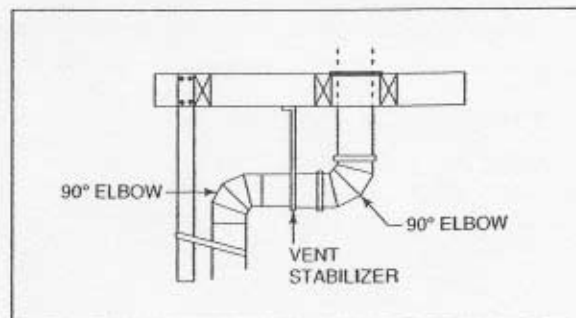

Figure 11
2. Preparing the ceiling. Drop a plumb bob down from the ceiling to the position of the appliance flue exit, and mark the location where the vent will penetrate the ceiling. Drill a small hole at this point. Next, drop a plumb bob from the roof to the hole previously drilled in the ceiling, and mark the spot where the vent will penetrate the roof. Determine if ceiling joists, roof rafters, or other framing will obstruct the venting system. You may wish to relocate the appliance, or to offset, as shown in Figure 11, to avoid cutting loadbearing members.
To bypass any overhead obstructions, the vent system may be offset using a 45 degree elbow or a 90 degree elbow. Vent stabilizers have straps for securing these parts to joists or rafters. Plumbers tape may be purchased locally and used in conjunction with vent stabilizers. See Figure 11.